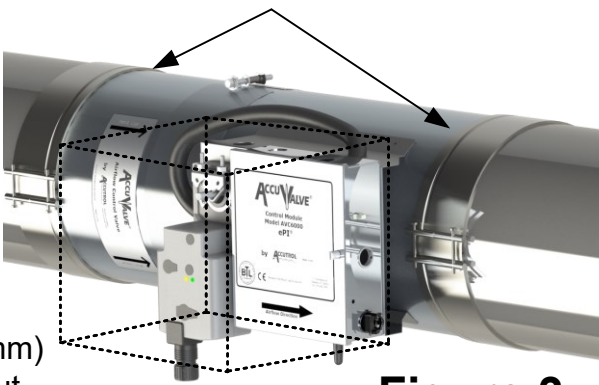

Figure 3
- 6. Install the valve into the duct in accordance with the Airflow Direction Label located on the valve. Position valve for easy access to the transmitter side and secure to duct per Figure 3.